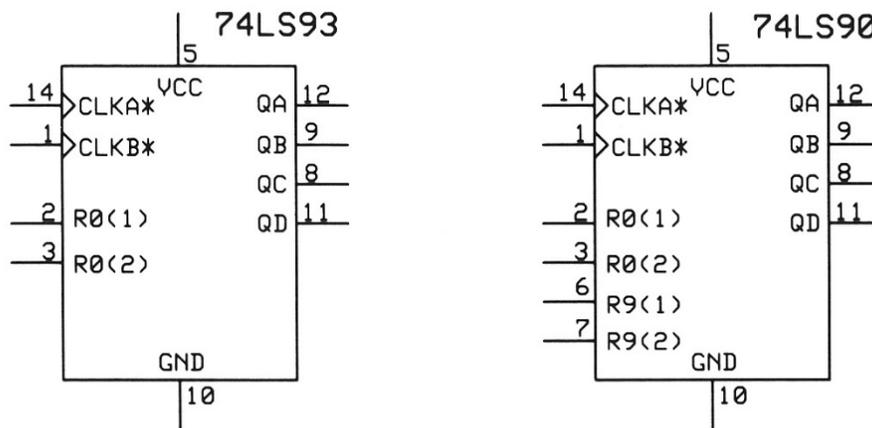

Figure 3.17.
In this step, you will substitute a 74LS90 decimal-counter IC for the 4-bit 74LS93 binary counter IC. The diagram shown in **Figure 3.17** provides the schematic symbol for a 74LS90 and a 74LS93. Note the 74LS90 decimal counter has the same pin configuration as the 74LS93 except for two additional reset inputs, R9(1) at pin 6 and R9(2) at pin 7. The reset inputs R0(1) at pin 2 and R0(2) at pin 3 remain the same as those on a 74LS93 binary counter.